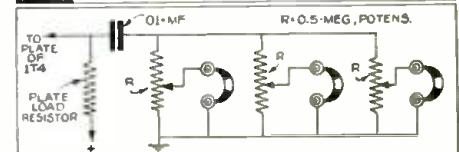

FIG. 4 ~SHOWING USE OF A NUMBER OF PHONES SIMULTANEOUSLY~
(2) The proximity of the speaker to the power transformer may produce mutual interference. That is, stray flux lines from the transformer may pass through the magnetic structure of the speaker, or through the voice coil, as outlined under (1). The chances are, however, that the transformer will interfere with the speaker by diverting some D.C. flux through the transformer and chassis. This will, of course, reduce the efficiency of the speaker. The exact reduction in efficiency, however, will depend upon the construction of the speaker and the proximity of the magnetic material to the speaker.
(3) It is necessary to use the output transformer secondary if you are coupling from the plate circuit of a tube to a low-impedance voice coil, as this is the only method of obtaining an efficient impedance transformation. If, however, you desire to couple from the plate circuit to another high-impedance device having an impedance nearly equal to the impedance of the output circuit, then you may use an arrangement, as illustrated in Fig. 4. This arrangement is sometimes employed for coupling the output stage to a crystal loudspeaker.
(4) An absolutely humless amplifier can easily be built. The simplest way of attain-
If 2 or more xtal earphones are to be used, as shown in Fig. 4, the individual volume control for such multiple installations may consist of variable resistors of a value on the order of 50,000 to 500,000 ohms. The number of phones used determines the exact value of each control. The value of the blocking condenser must be increased as more and more phones are employed. In using crystal phones, it should always be kept in mind that they should not be subjected to D.C. potentials, or to temperatures above 120° F.